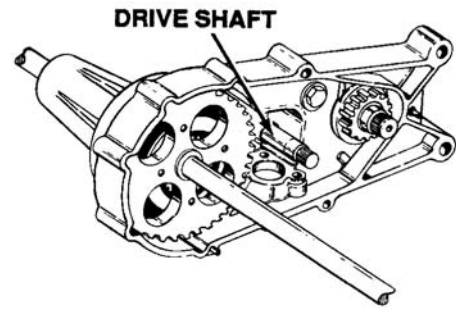

Figure 6-35. Reduction Gear Removal
11. Remove reduction gear (60 and 17 tooth) from drive shaft. See Figure 6-35.